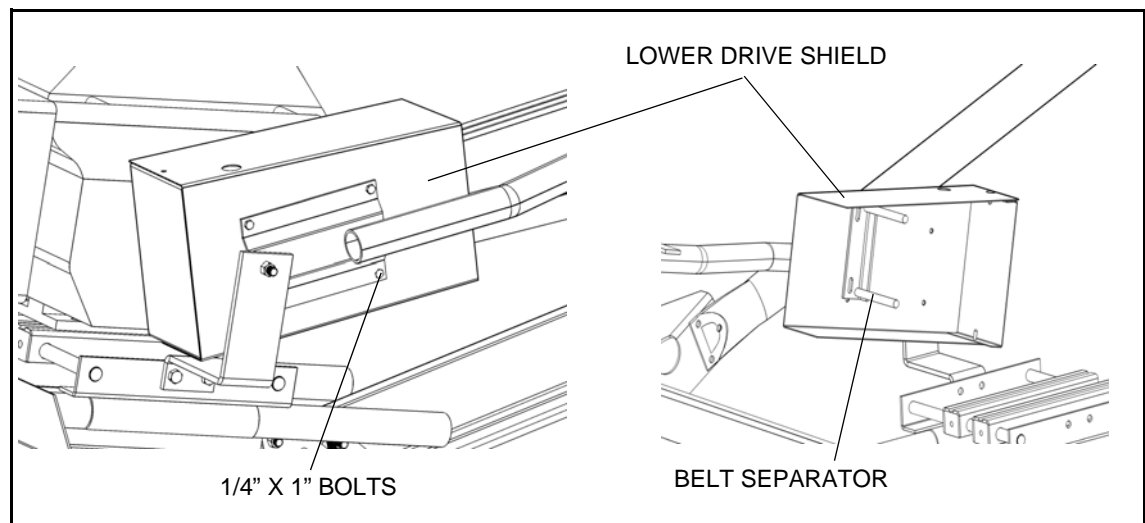

Figure 3.38
20. Install lower drive shield using four 1/4" x 1" bolts and 1/4" zipnuts (Figure 3.38). Secure belt separator to the inside of shield with the 2 bolts closest to auger intake.